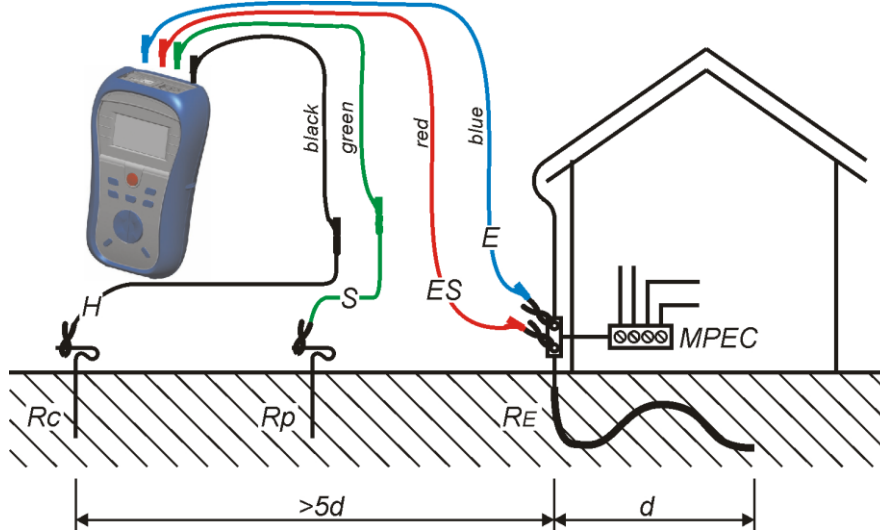

Figure 5.2: Resistance to earth, 4-wire measurement of main installation earthing
- ❑ **Connect** the test accessory to the item to be tested (see figures 5.2, 5.3, 5.5, and 5.7).